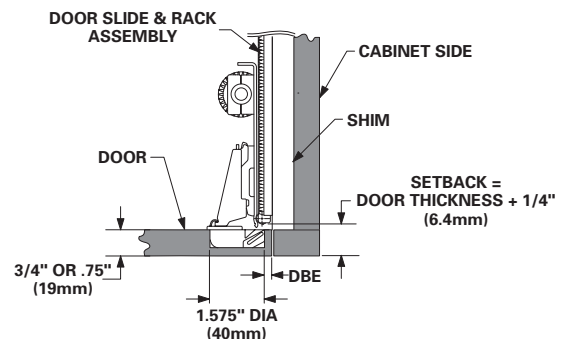

figure 10
- For face frame applications, the slide must be blocked out so that it is flush with the edge of the frame (fig. 10). The blocking should be cut to a width of 2-3/4", and a length that matches the length of the slide for proper slide support.